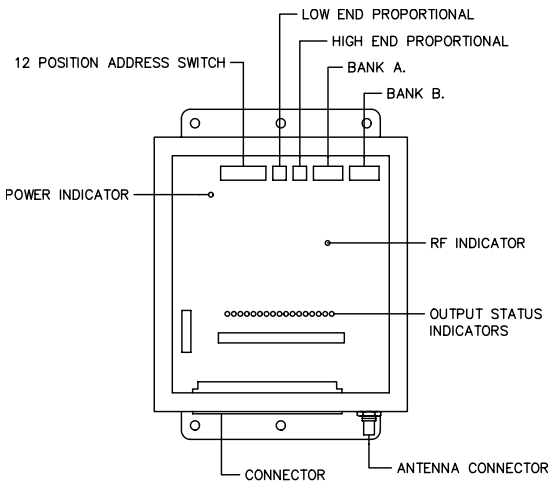

Fig. 11
board there are two banks of eight dip switches, (refer to fig. 11). Bank "A" controls outputs 1 thru 8. Bank "B" controls outputs 9 thru 16. When switches are in the off position these outputs will be momentary. Note:
momentary switches require constant pressure on transmitter switch to operate each output. If the receiver utilizes standard software, and any switches are in the "ON" position the outputs will be latched. Latch does not require operator to maintain pressure on the transmitter switch to operate, i.e. common ON/OFF function such as turning lights ON and OFF. To change these switches you must remove the receiver enclosure lid. Since receiver is a proportional unit, there are two (2) hex switches which are labeled Low End proportional and High End Proportional. On this style of unit, master control output will be a pulse width modulated (PWM) signal. The Proportional Low End Switch sets the PWM output to the proportional value's low end setting, (see fig.11). The Proportional High End Switch sets the PWM output to the proportional valve's high end setting, (see fig. 11). The independent proportional low and high end settings match the potentiometer